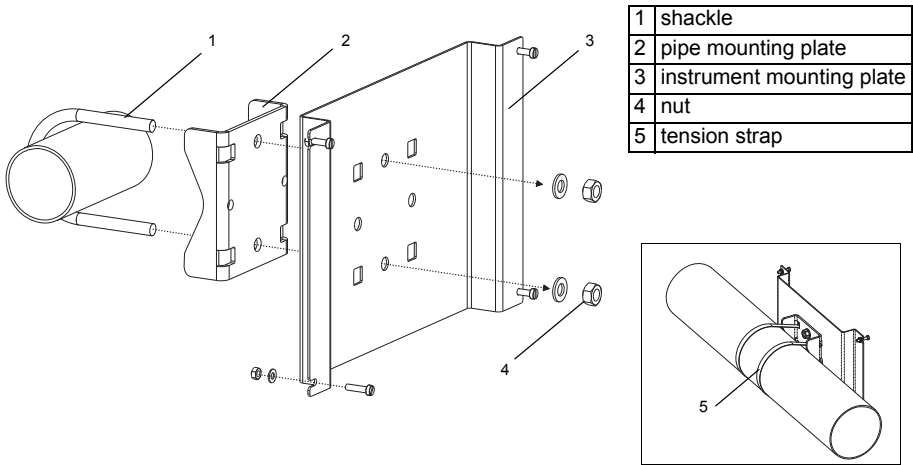

Fig. 5.2: Pipe installation set
- Fix the pipe mounting plate (2) to the pipe (see Fig. 5.2).
- Fix the instrument mounting plate (3) to the pipe mounting plate (2) with the nuts (4).
- Fix the bottom side of the housing to the instrument mounting plate (3).
The mounting kit is fixed to the pipe with tension straps (5) instead of the shackle (see Fig. 5.2). Push the tension straps through the holes of the instrument mounting plate (3).